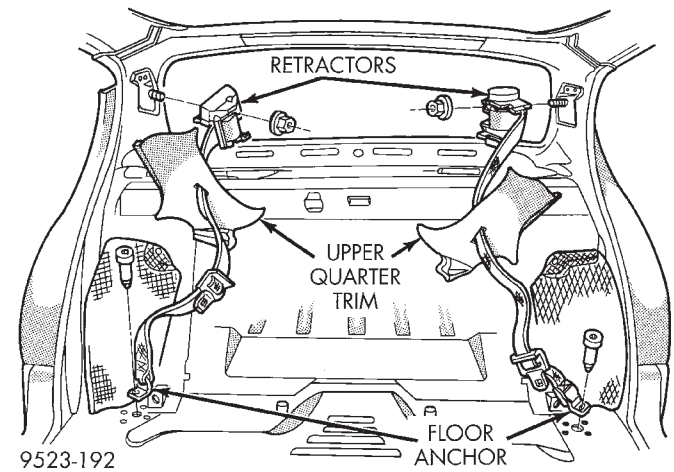

Fig. 77 Seat Belt – Rear Outboard
- (1) Remove rear seat cushion.
- (2) Remove bolt holding seat belt anchor to floor pan (Fig. 77).
- (3) Remove upper quarter trim panel.
- (4) Remove nut holding rear seat belt retractor to inner quarter panel.
- (5) Remove retractor and belt from vehicle.